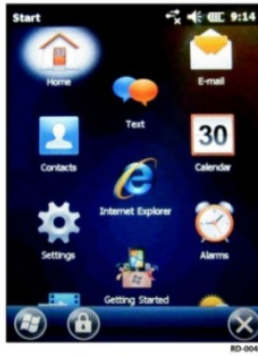

Figure 10. Start screen
3. Tap the **Windows** icon in the lower left corner of the screen. The Start screen displays (Figure 10).